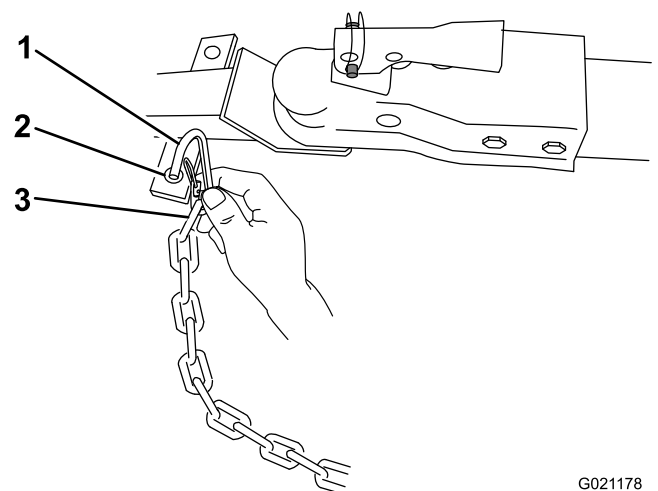

Figure 26
3. Connect each length of chain to the safety chain mounting point on the tow vehicle with the connecting links (Figure 26).